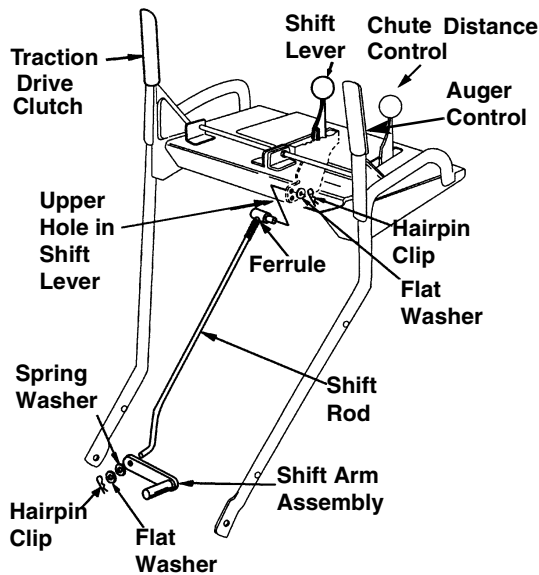

Figure 24
- Place the shift lever on the handle panel in the sixth (6) speed position (all the way forward).
- Push down on the shift rod (and shift arm assembly) as far as it will go. Hold it in this position. See Figure 24.
- Insert the ferrule into the upper hole in the shift lever from the right side when adjustment is correct. Secure with the flat washer and the hairpin clip that you had earlier removed. See Figure 24.